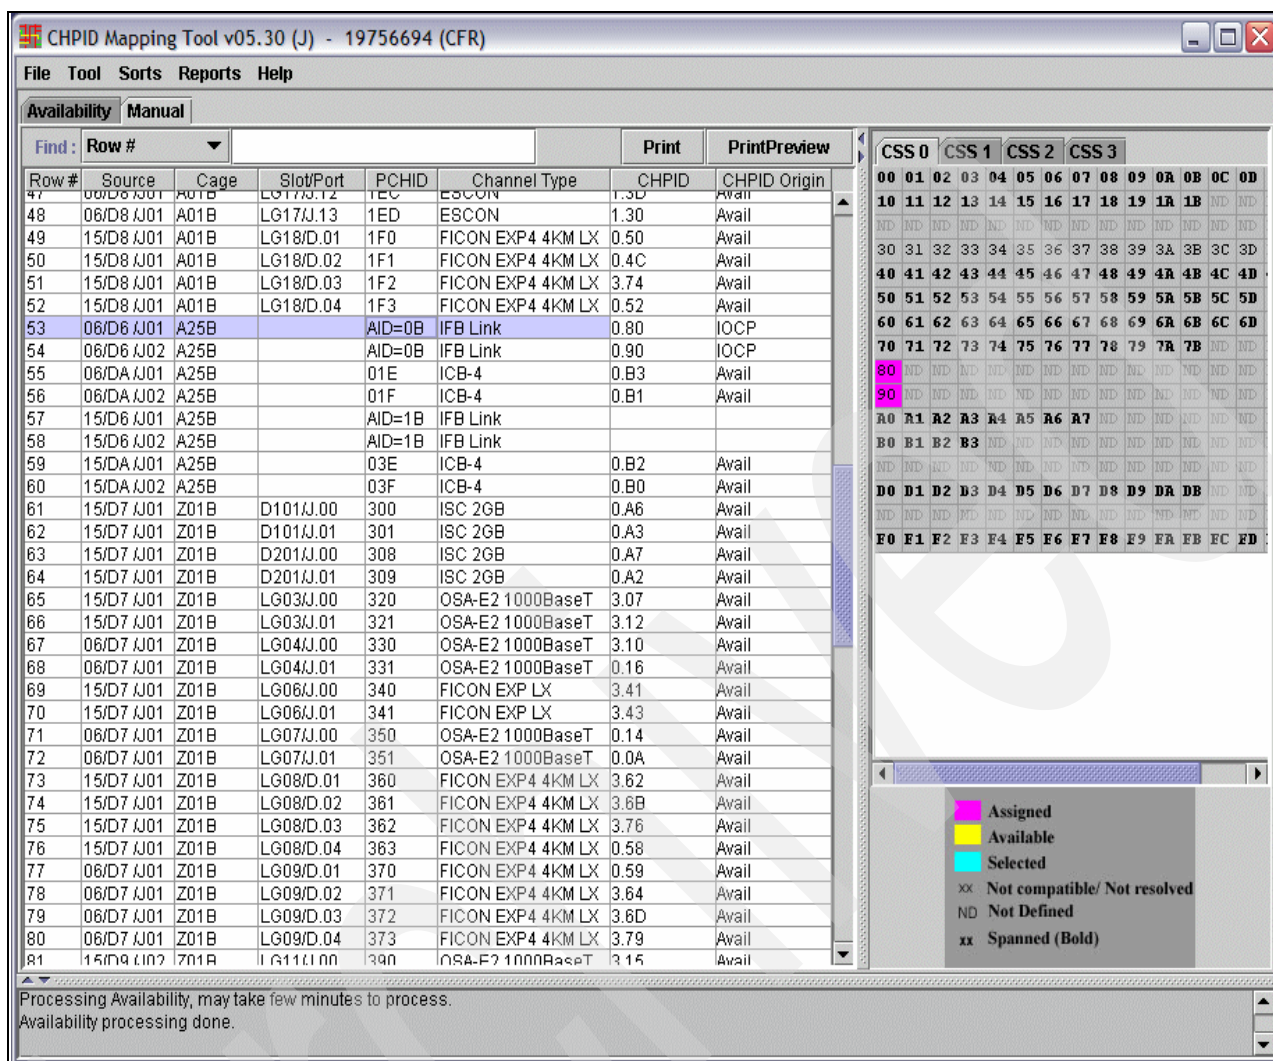

Figure 5-38 CMT - C type intersects via Manual tab
6. Now click the **Manual** tab and notice the “C” intersects (Figure 5-38).